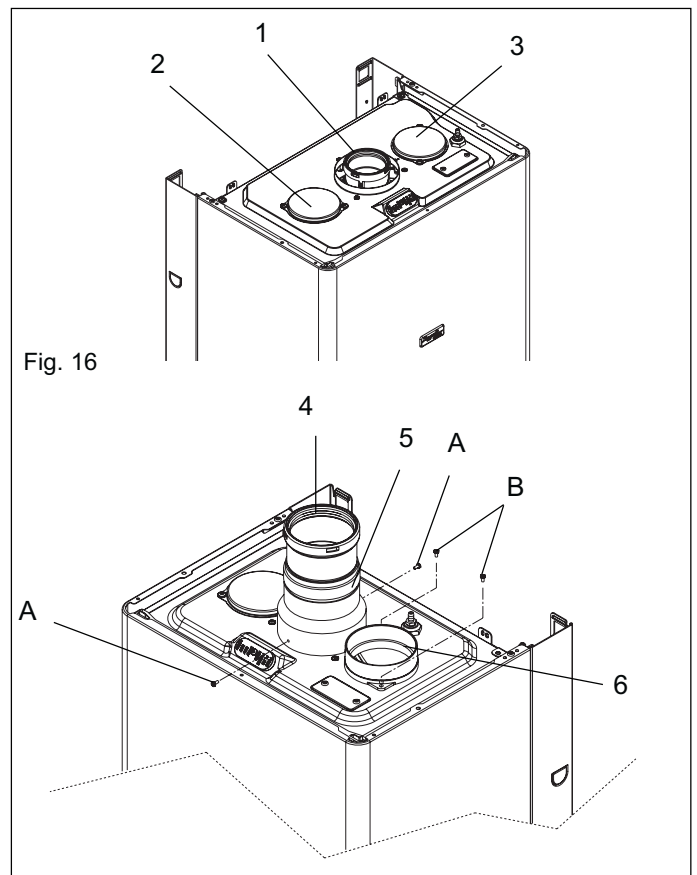
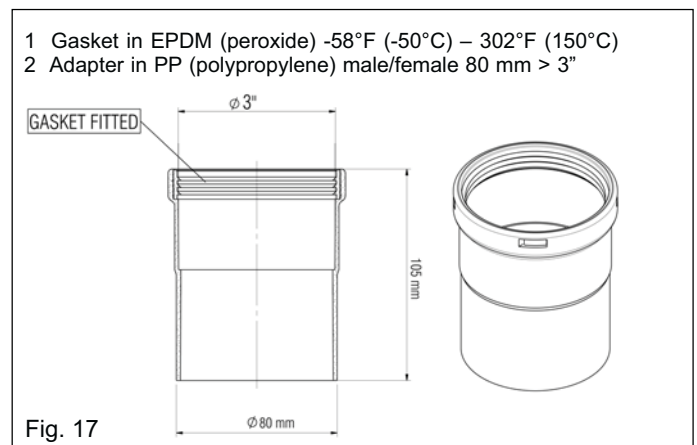
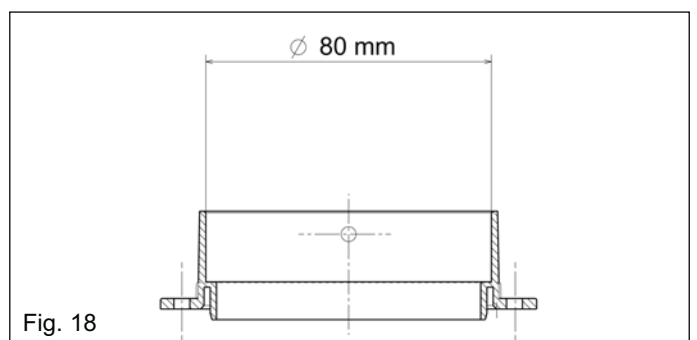

Fig. 16
Fig. 17
Fig. 18
- 60/100 mm vent exit (Fig. 16 pos. 1)
- Left side intake air (factory sealed with two screws) for two pipes solutions (Fig. 16 pos. 2)
- Right side intake air (factory sealed with two screws) for two pipes solutions (Fig. 16 pos. 3)
- Vent adaptor for two pipes vent system – 80 mm dia exit (Fig. 16 pos. 5) (Fig. 19)
- Intake air adaptor for two pipes vent system – 80 mm dia exit (Fig. 16 pos. 6) (Fig. 18)
- 3" adaptor (inside diameter 3") (Fig. 16 pos 4, Fig. 17)
1. Install the vent adaptor (Fig. 19) to the boiler vent connection (Fig. 16 pos. 1)
2. Use the two supplied screws to ensure the closing between the adaptor and boiler (Fig. 16 pos. 5)
3. Insert the 3" adaptor (Fig. 17) into the vent adaptor (Fig. 19) in the case using 3" vents
4. Install the air adaptor (Fig. 18) to the boiler air connection (choose right or left installation (Fig. 16 pos. 2 - 3), using the two supplied screws (Fig. 16 pos. 6) in the case of two pipes, room sealed vent installation.